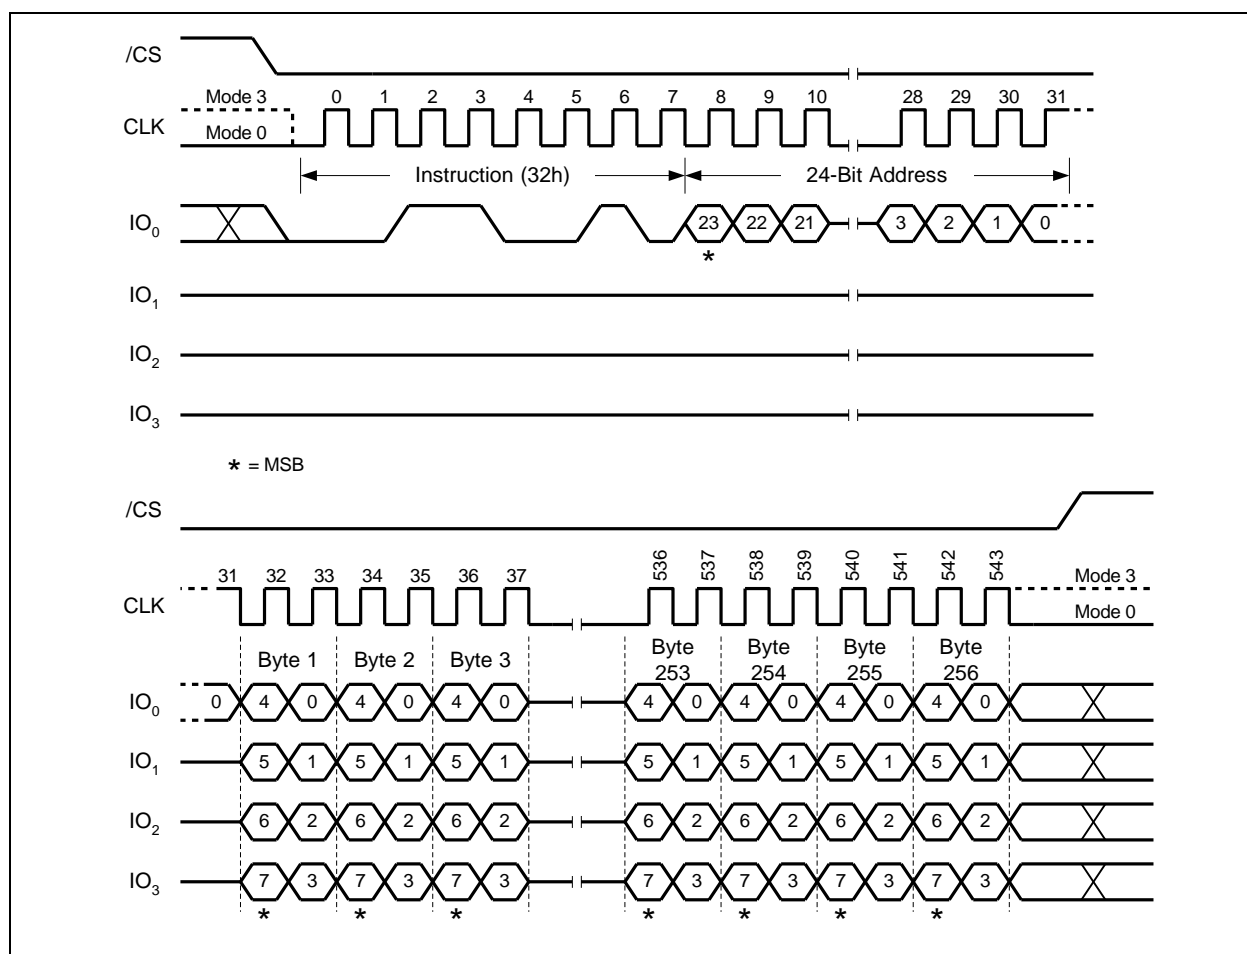

Figure 30. Quad Input Page Program Instruction (SPI Mode only)
To use Quad Page Program the Quad Enable (QE) bit in Status Register-2 must be set to 1. A Write Enable instruction must be executed before the device will accept the Quad Page Program instruction (Status Register-1, WEL=1). The instruction is initiated by driving the /CS pin low then shifting the instruction code "32h" followed by a 24/32-bit address (A23/A31-A0) and at least one data byte, into the IO pins. The /CS pin must be held low for the entire length of the instruction while data is being sent to the device. All other functions of Quad Page Program are identical to standard Page Program. The Quad Page Program instruction sequence is shown in Figure 30.